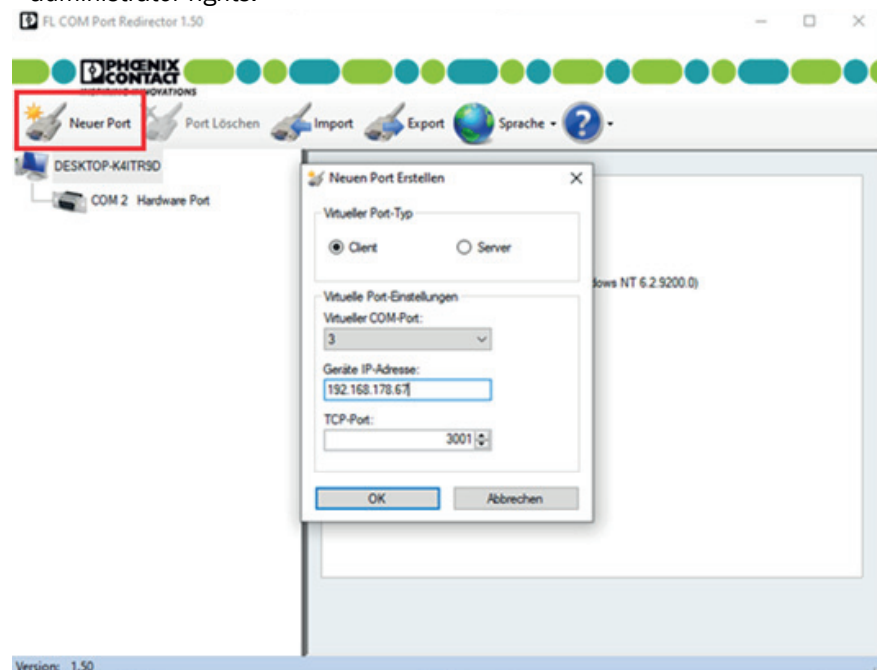

Fig. 9: Creating the virtual COM-Port
3. Set the mode to “Client” (see Fig. 9).